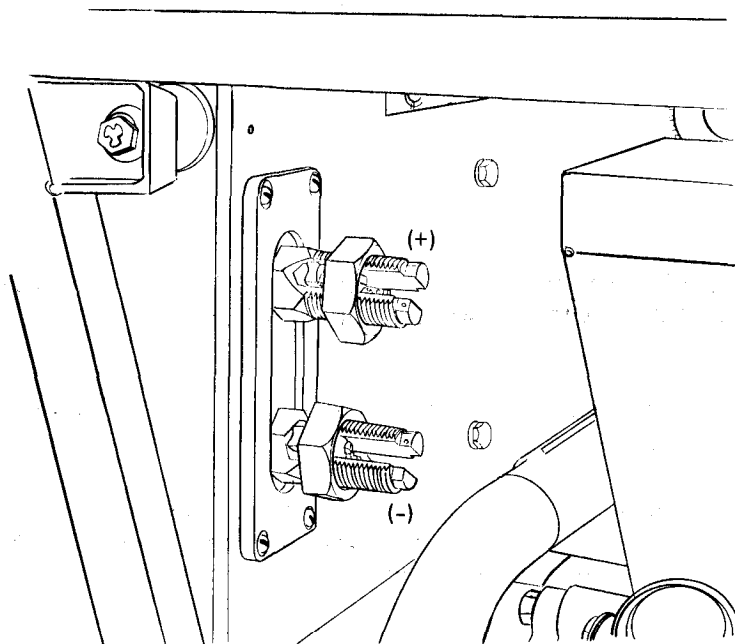

Figure 4-2. Load Terminals, Model MEP-026B.
- (1) For 120 volts, single phase; connect cables to terminals L1 and L2.
- (2) For 240 volts, single phase; connect cables to terminals L1 and L2.
- (3) For 120 volts, three phase; connect cables to terminals L1, L2, and L3.
- (4) For 120/208 volts, three phase, four wire; connect cables to terminals L0, L1, L2, and L3.
- b. Model MEP-026B. Refer to Figure 4-2 and connect the negative (-) cable from the load to negative (-) terminal on the back of the control box. Connect the positive (+) cable from the load to the positive (+) terminal on the back of the control box.